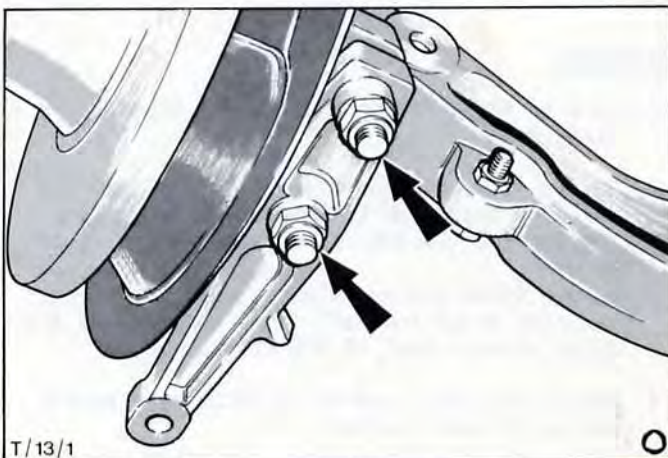

Fig.41. Steering arm fixing bolts. (non-drivers side)
5. Fit clean steering arm secure with new locknuts, tighten to correct specification (see Technical Data). Fig.41.